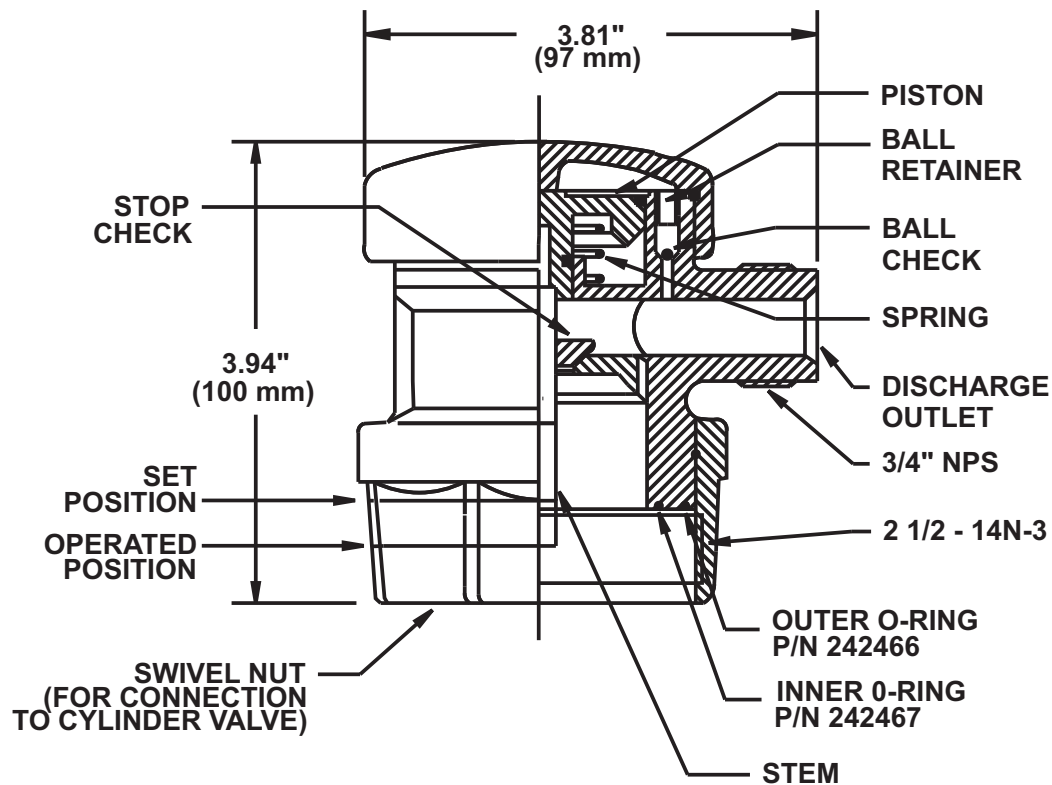

Figure 6-11. Discharge Head, Plain Nut
3. Replace if the o-rings show any sign of damage, distortion or deterioration (see Figure 6-11).